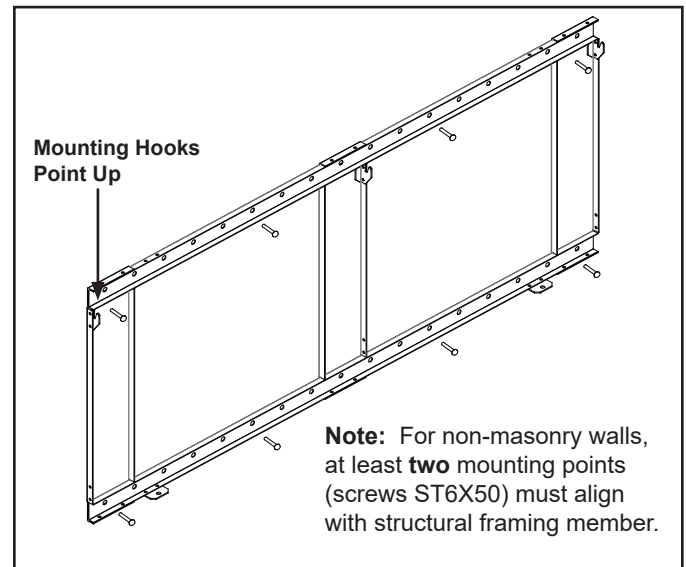

Figure 8 Bracket Attachment
- With mounting hooks pointed up, attach the bracket to the masonry anchors with ST6X50 screws. See Figure 8.